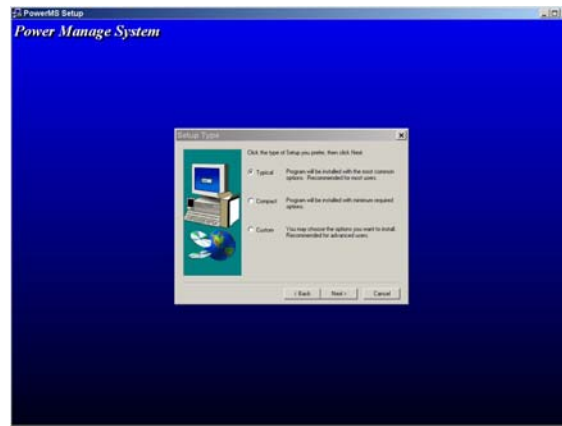

Fig. 3-5 The Installation Window
- 3.1.5 In Fig. 3-5, the installation type is selected. Normally, most users will select “TYPICAL”. Click the mouse on “NEXT” to continue.